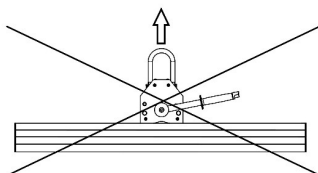

Fig. 14
- Lift more than one load at a time (fig.14)